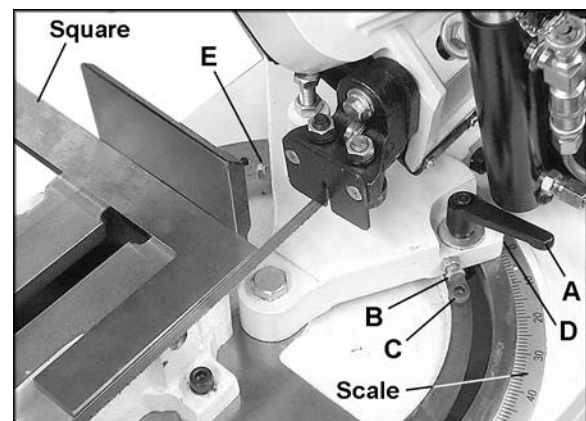

Figure 10
1. Loosen the handle (A, Figure 10) and make sure the bow is swiveled enough that the stop screw (B, Figure 10) is contacting the fixed screw (C, Figure 10).
2. Place a machinist's square on the bed against the blade and the fixed jaw of the vise, as shown in Figure 10. The square should lie along the entire length of the jaw and blade without a gap.
3. If the vise and blade are not square, loosen the hex nut on the stop screw (B, Figure 10) with a 10mm wrench and rotate the stop screw as needed until the vise and blade are square
whenever the stop screw is contacting the socket head cap screw (C, Fig 10).
4. If the vise and blade are square but the pointer (D, Figure 10) is off slightly, loosen the screw and adjust the pointer until it lines up with zero on the scale. Tighten the screw.
**Note:** The handle (A, Figure 10) is adjustable. Simply lift up on the handle and rotate it on the pin. Release the handle, making sure it seats itself properly on the pin.
If adjustment is needed, loosen the hex nut on the 45° stop (E, Figure 10) and rotate the screw as needed with a 10mm wrench. When satisfied, tighten the hex nut.
6. Remove the socket head cap screw (C, Fig. 10) to allow the bow to swivel.